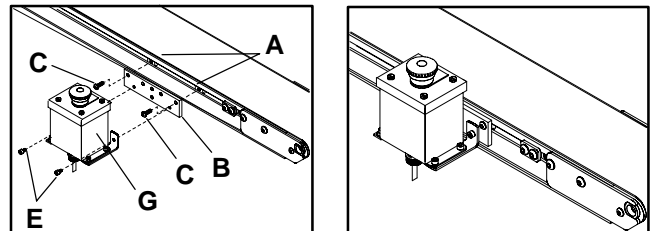

Figure 3
2. Attach the Pushbutton Box assembly (G of Figure 3) to two T-bars (A) with screws (C).